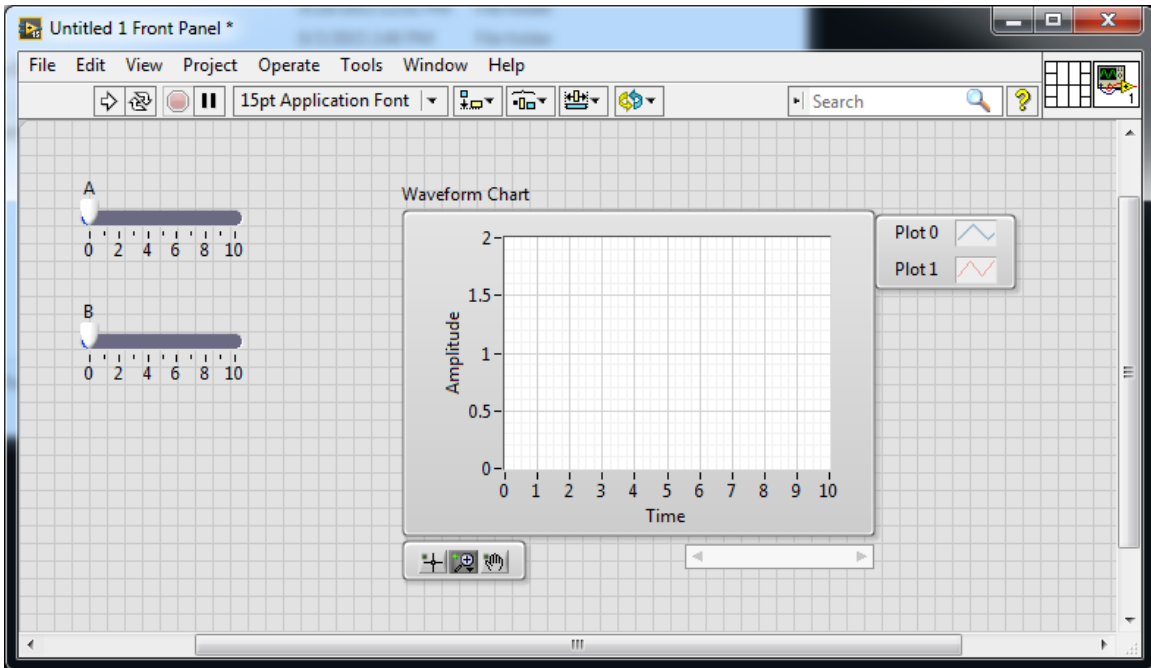
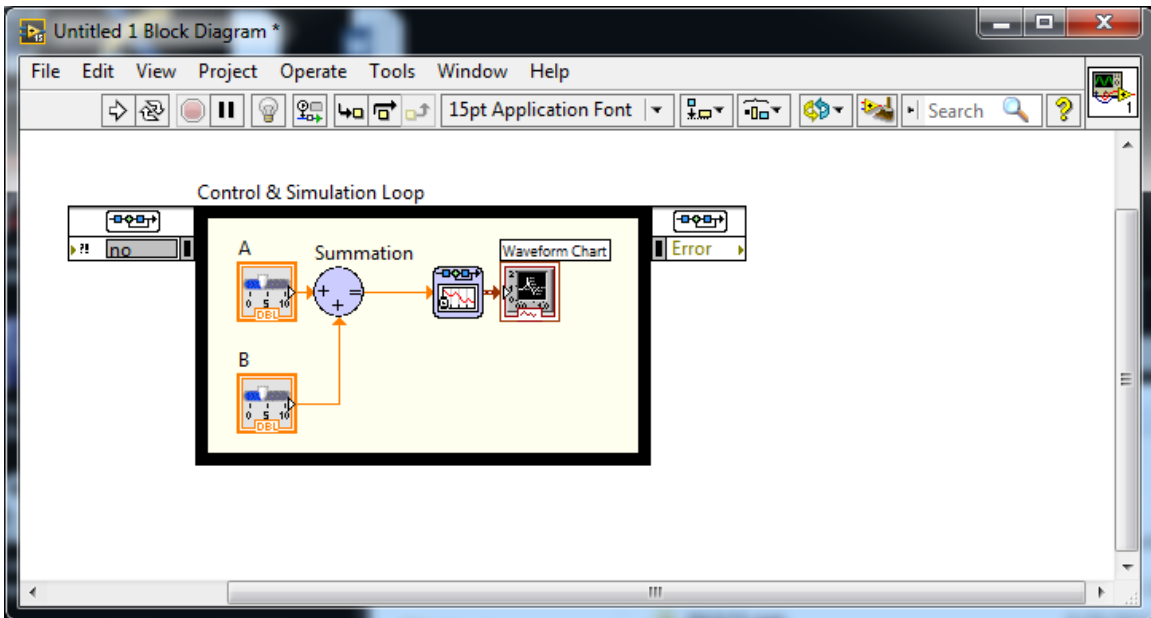

Figure 6 - Front Panel window with the complete summation simulation
Figure 7 - Block Diagram Window with the complete summation simulation
A summing block in simulation takes the sum or difference of the inputs, just like the summation blocks in block diagrams. You will be building the simulation shown in Figure 6 and Figure 7.
- In the Control & Simulation window, select Simulation to open the Simulation window. In the Simulation window, select Control & Simulation Loop. In the Block Diagram window, click in the upper left corner and drag the cursor to create the Control and Simulation Loop. It should look like an empty version of the dark black box in Figure 7.
- Now we are going to add the components inside the Control and Simulation Loop to match Figure 7. In the Simulation window, select Graph Utilities. Then click and drag a SimTime Waveform into the Block Diagram window and inside the Control and Simulation Loop. This will add to blocks to the Block Diagram and the Waveform Chart to the Front Panel. You may resize your Waveform Chart in the Front Panel using the double-ended arrow mouse cursor, just like resizing an image in MS Word or Power Point.
- Now go to the Front Panel window. Right click in an empty area of the window. Select Numeric and then Horizontal Pointer Slide. Repeat so you have two different sliders like Figure 6.
- Go back to the Block Diagram and you will have two new blocks corresponding to each of the sliders added in the previous step. Hook each of the sliders up to the summation block and complete the diagram to match Figure 7. To draw wires between blocks hover over the edge of the output of the first block until your cursor changes to a spool of wire, then click on the edge of first block and the port on the input of the block you want to connect it to. Once everything is connected, the arrow in the first button of the tool bar will be connected as it is in each figure. However, if there is a block that is not connected the arrow on the first button will be cut in half.